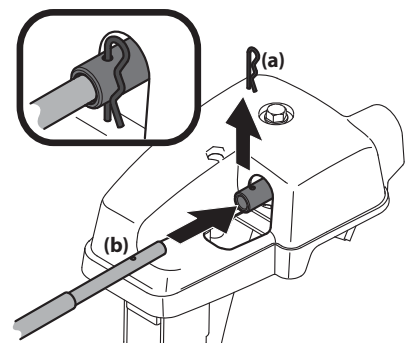

Figure 2-36
4. Remove hairpin clip (a) from rear of chute control assembly. See Figure 2-36.
5. Insert flex shaft (b) removed during Handle Assembly from lower handle into rear of chute directional control head. See Figure 2-36. Secure flex shaft to chute control head with hairpin clip (a) removed in Step 4.